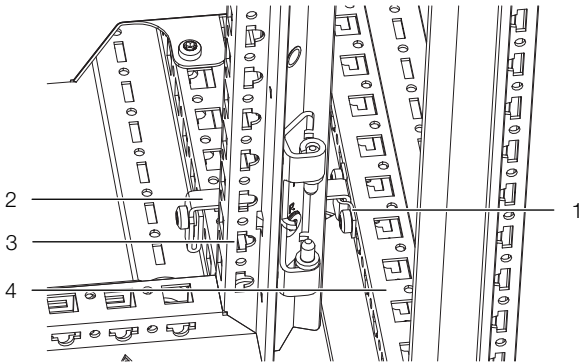

Fig. 39: Connection element in the rear area VX/VX
- Likewise, before buying, fit the bracket (fig. 39, item 1) required for the connection component to the VX IT server rack.
- Next, insert a connection component (fig. 39, item 2) in the rear section between the frames of the LCP Inline Protruding and the server rack.